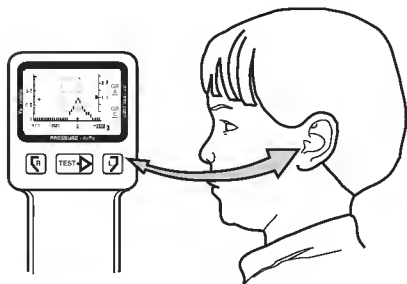

Figure 7
7. To store the results of the test, press the button which matches the tested ear, as illustrated in **Figure 7**.